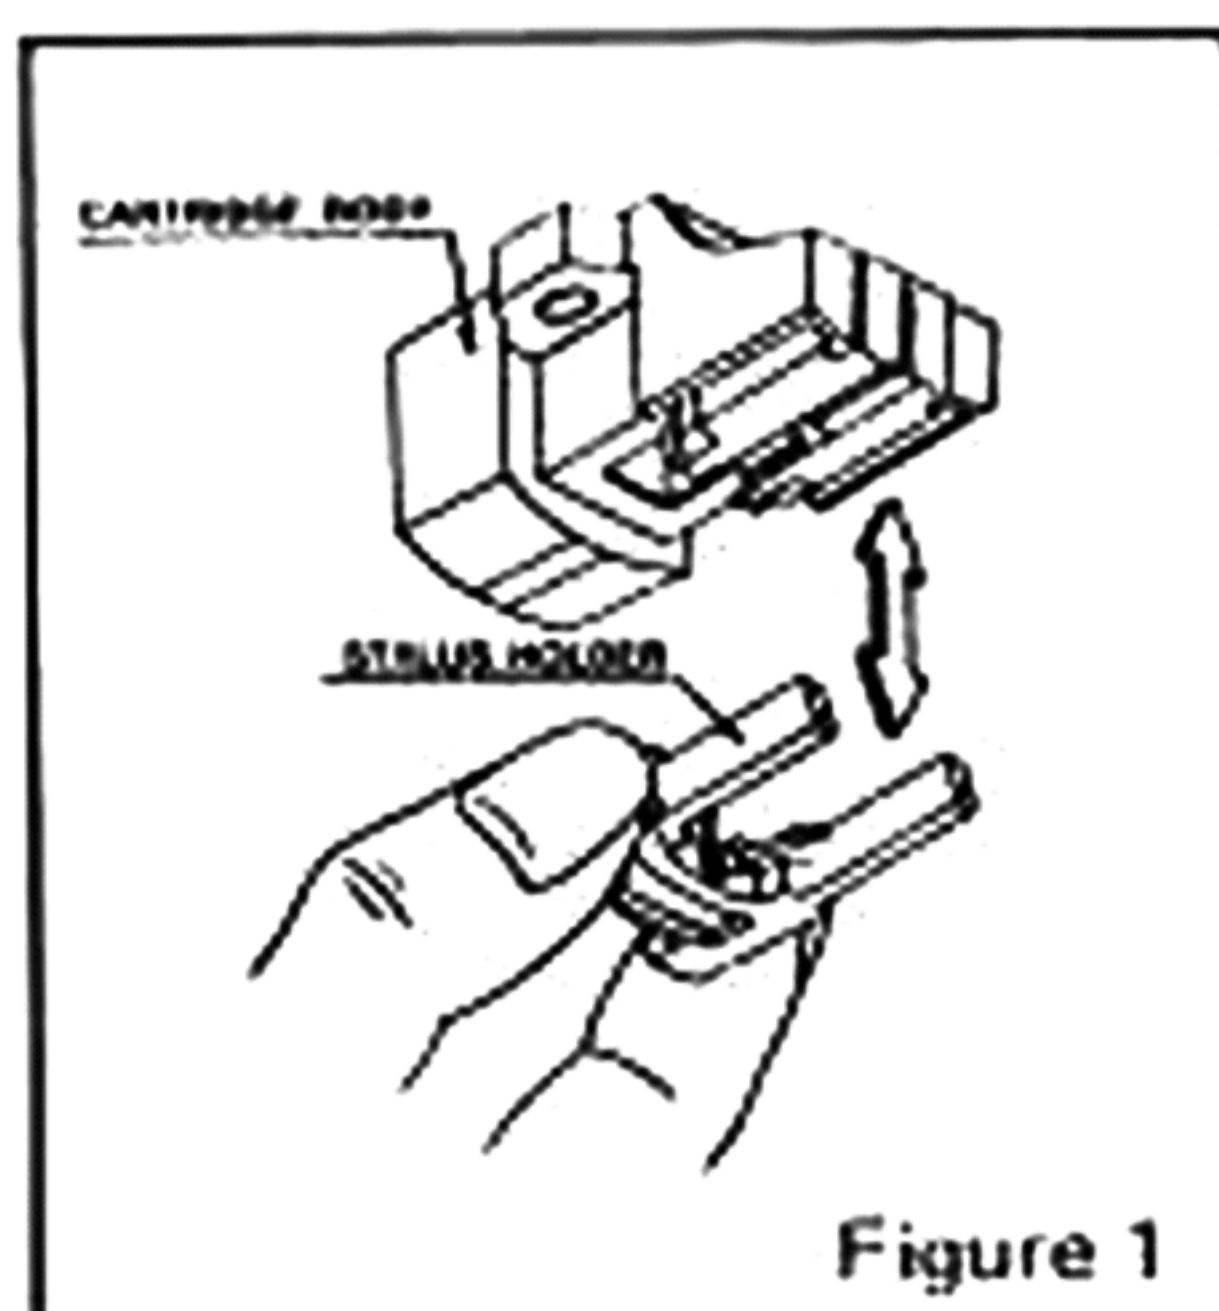

Figure 1
- Carefully grasp the stylus holder and pull it as shown in figure 1.
- Before installing the cartridge into the head shell, we recommend that the stylus assembly be temporarily removed to prevent damage to the stylus tip. (Figure 1.)